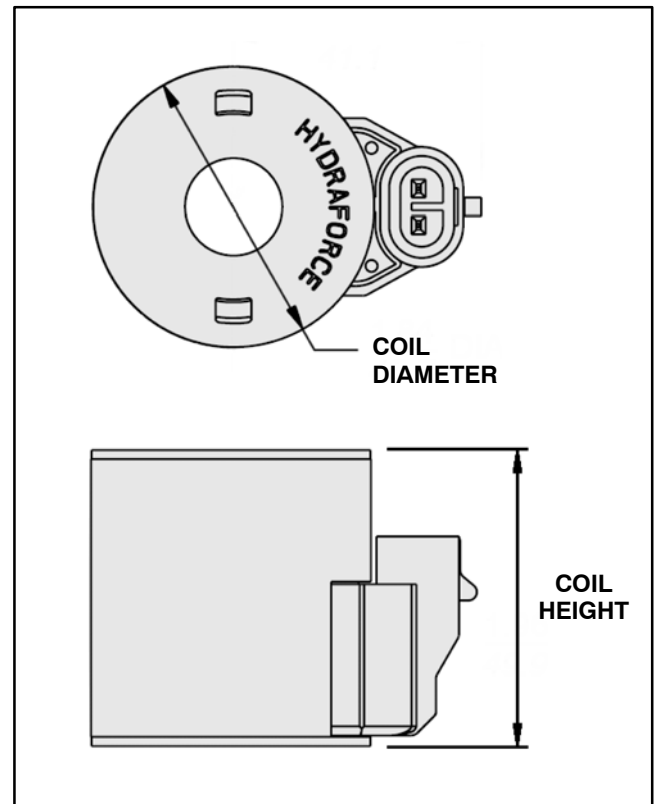

Figure 70
Solenoid valve coils with two (2) different resistance specifications are used on the 4100-D and 4110-D. The correct resistance of a coil can be identified by measuring the height and diameter of the coil (Fig. 70). Resistance testing of the coils can be done with the coil remaining on the hydraulic valve.
3. Identify coil resistance specification by measuring the coil diameter and coil height (Fig. 70).